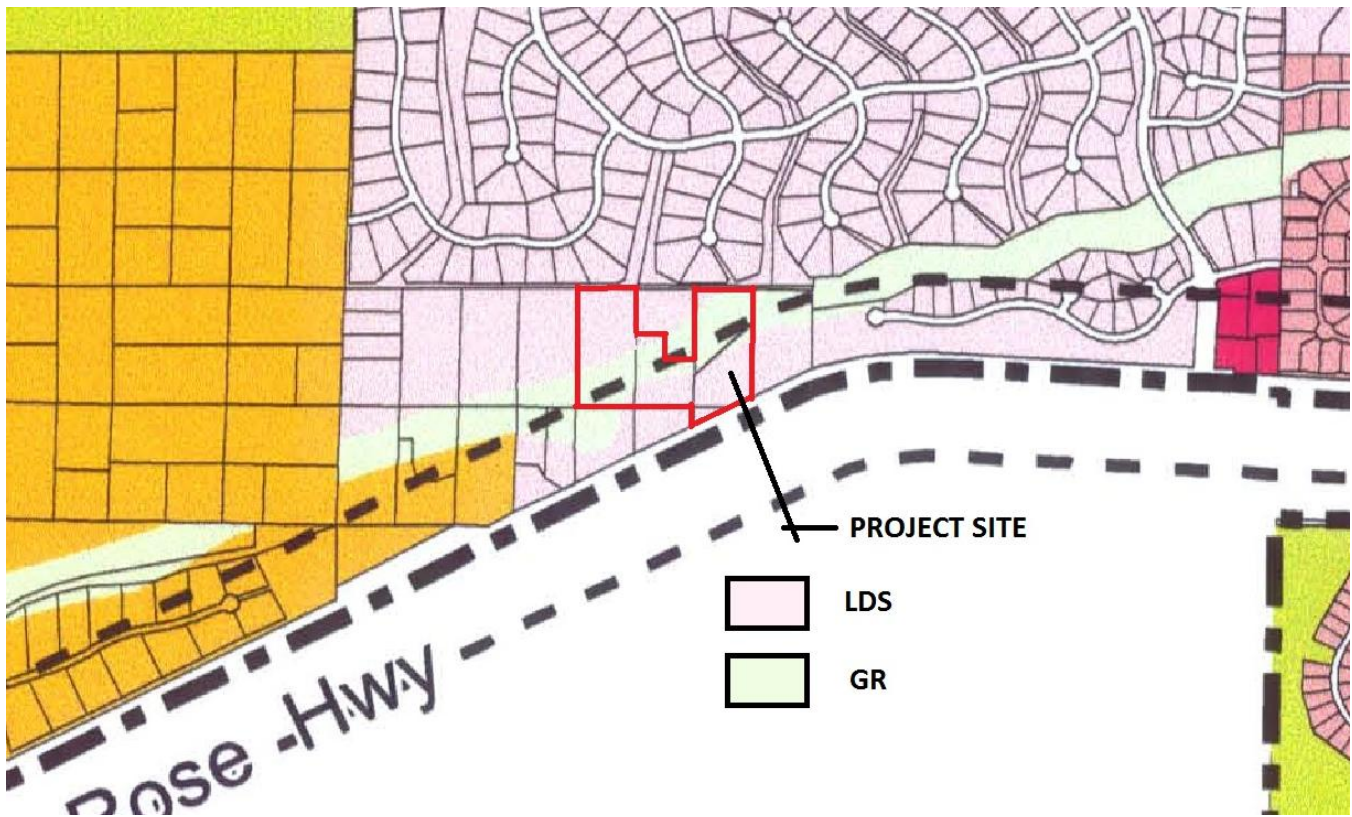

Figure 3 – Existing Zoning
Currently, the project site includes a mix of Low Density Suburban (LDS) and General Rural (GR) zoning. Generally, the GR zoning is clustered along the Whites Creek corridor with LDS to the north and south of the creek. Based on Washoe County Assessor data, there are approximately 7.41± acres of LDS with 5.47± acres of GR zoning for the Serendipity Ranch site. Figure 3 (below) depicts the existing site zoning.